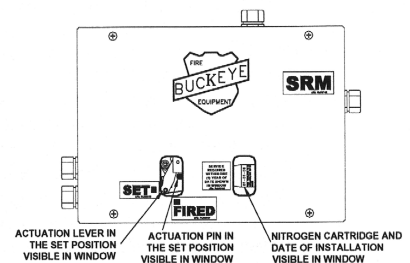

Figure 20.
2. Place the SRM Enclosure Cover on the SRM, making sure that the Labels are properly oriented and the four (4) mounting holes line up.
4. Secure the Cover to the Enclosure using the four (4) 10-24 X 3/8" self-tapping screws provided. See **Figure 20**.